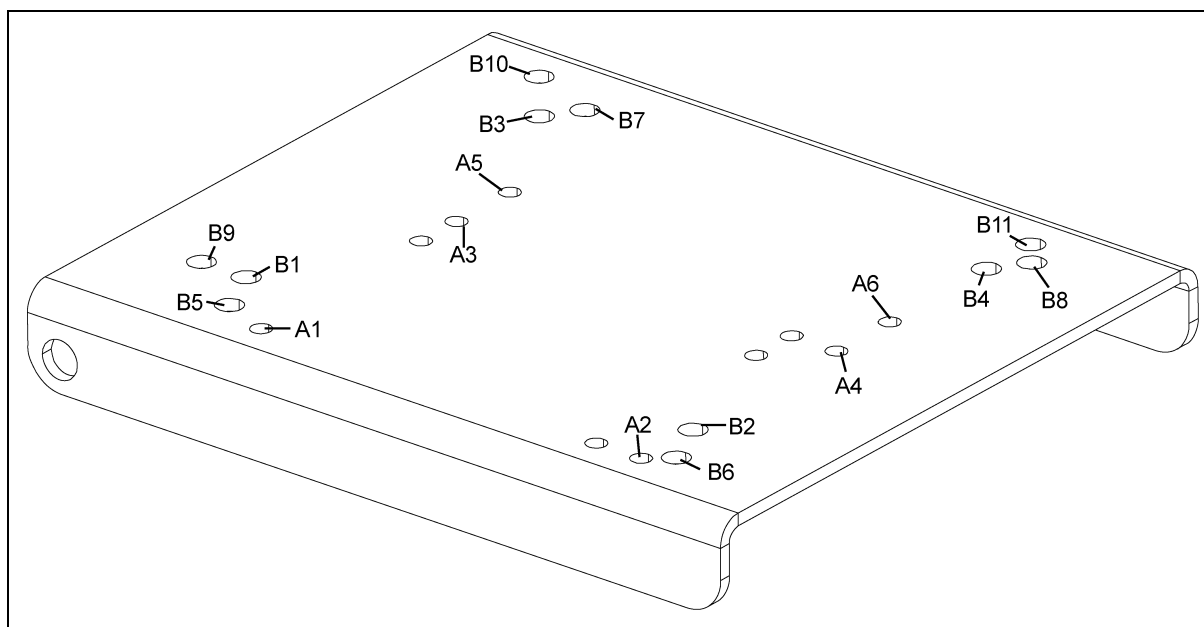

Figure 4D
8. Slide the mounting ring of the belt guard (U) over the mounting ring of the chain reducer drive (K).
9. Fasten the bottom of the belt guard (U) to the motor mount frame (N) using two (2) 3/8" x 1-1/4" long (grade 5) hex head cap screws, eight (8) 1/16" thick flat washers and two (2) nylon lock nuts. Position the flat washers between the inside of the motor mount frame (N) and the outside of the belt guard (U).
10. Use two (2) 1/4" x 5" long hex head cap screws, belt guard spacer tubes (T) and nylon lock nuts to connect the upper portion of the belt guard (U) to the motor mount frame (N).
11. Install electric motor on the motor mount plate (C). (**NOTE: The motor and motor mounting hardware are not furnished.**) (See Figure 4D on Page 16 for motor size and bolt hole locations.)
13. Slide 12" O.D. pulley (X) onto the input shaft of the chain reducer (K). Using 1/4" square key (AA) and set screw to secure pulley in place. Align motor pulley with 12" O.D. pulley.
14. Install drive belts (Z) on pulleys and tighten. Using a wrench, turn the adjusting rod (G) (installed in Step 5 on Page 13) so that it pushes against the bottom of the motor mount plate (C). When the belts are tight, screw the hex nut on the bottom side of the adjusting rod tightly up against the nut welded to the bottom of the motor mount support plate.
15. Bolt the belt guard door (U) closed with two (2) 3/8" x 3/4" long (grade 5) hex head cap screws and nylon lock nuts.
Use the charts and Figure 4D below to determine the location of the holes where you need to install the motor.